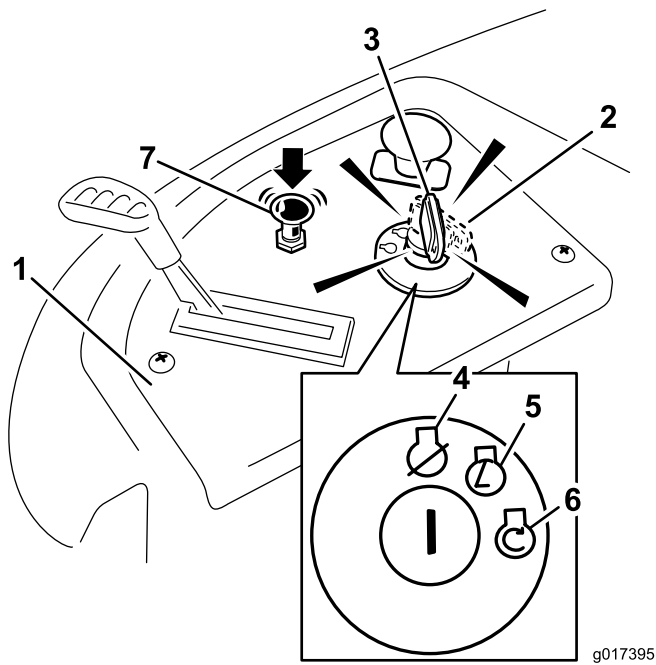

Figure 15
4. Turn the ignition key to Start to energize the starter. When the engine starts, release the key (Figure 15).
5. After the engine starts, push down on the Choke control (Figure 15). If the engine stalls or hesitates, pull up on the Choke control and let the engine run for a few seconds. Then push down on the Choke control. Repeat this as required.
3. Turn the ignition key to Off (Figure 15) and remove the key.